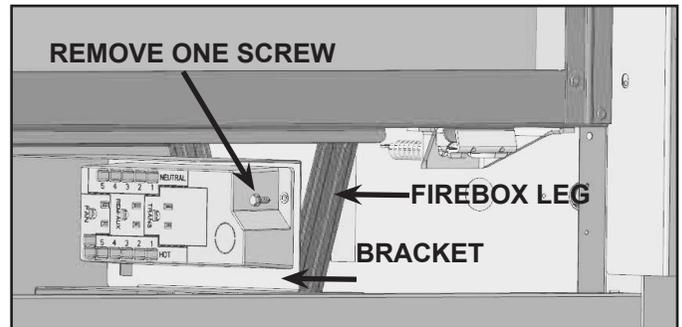

Figure 8.2 Junction Box Detail - JADE42IN-B, JADE42IL-B
**JADE42IN-B / JADE42IL-B:** The junction box is secured to a bracket. Remove one screw. See Figure 8.2.